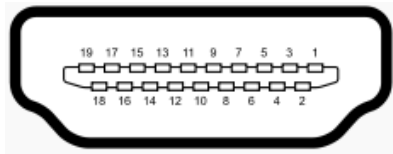

Figure 3-30: HDMI Connector
- CN Pinouts:** See **Table 3-29** and **Figure 3-30**